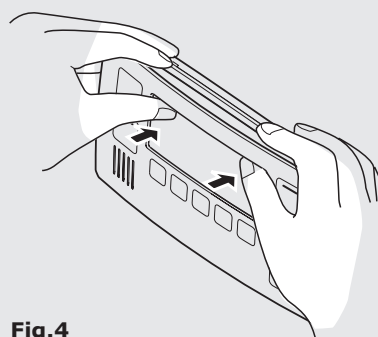

Fig.4
5. Fix the controller to the wall using appropriate fittings as shown (Fig.4).
6. Remove protective plastic from the controller face as shown (Fig.4) and replace the face plate.
5. Carefully remove the face plate from the controller. Do this by placing your thumbs on the front digital display while hooking your fingers behind the top plate and gently push down as shown (Fig.4). Do not use a screwdriver as this may damage the controller.